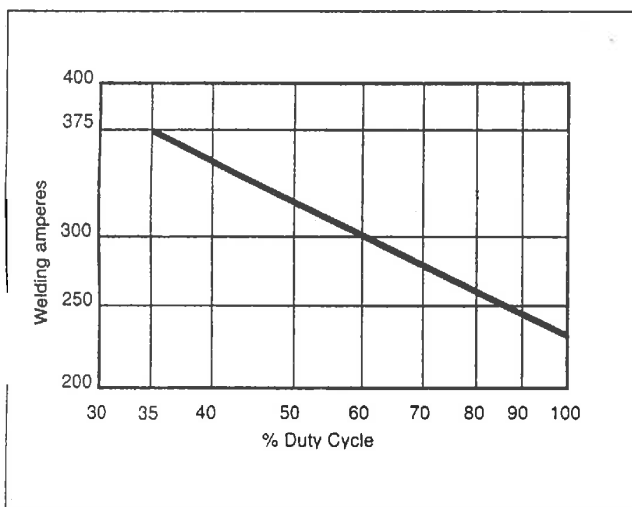

Fig. 2
1. Duty cycle (Fig.2)
The duty cycle of the welding power source is the percentage of a ten minute period that a welding power source can safely be operated at a given output current. If the welding current is decreased, the duty cycle will increase. Figure 2 enables the operator to determine the safe output of the welding power source at various duty cycles.
1. Facteur de marche (Fig.2)
1. Ciclo di lavoro (Fig.2)
1. Ciclo de trabajo (Fig. 2)